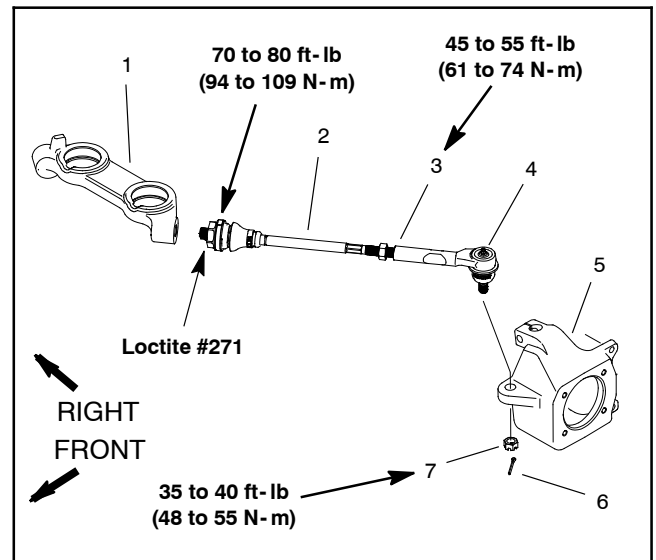

Figure 17
2. To remove tie rod from vehicle (Fig. 17):
1. If steering linkage and center link is disassembled (Fig. 17 and 18).